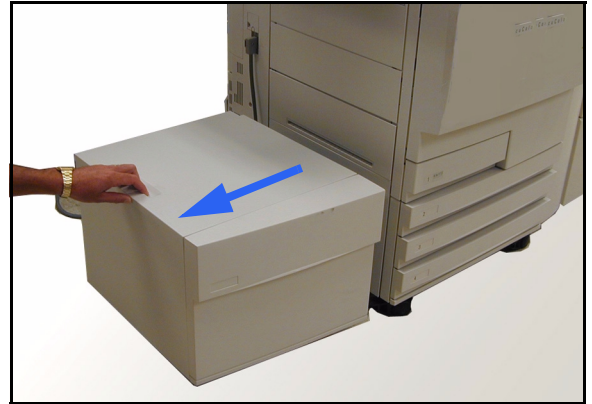

Figure 6: Moving the HCF from the printer
- 2 Slide the HCF away from the printer (Figure 6).